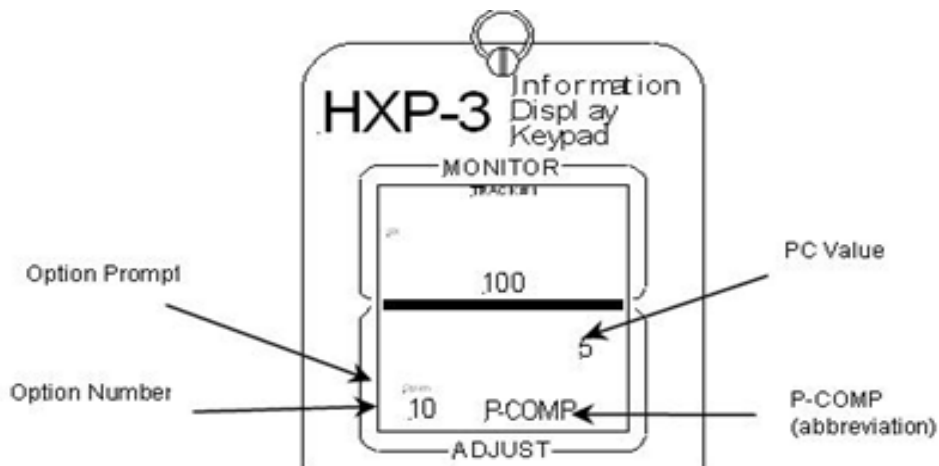

Figure 5 – HXP-3 Display Information P-COMP
8.10 If the Phase angle is between 23 degrees and 32 degrees, press the OPTION button until option 10 is selected, the OPTION prompt flashes and “P- COMP” is displayed. This is shown in figure 5.